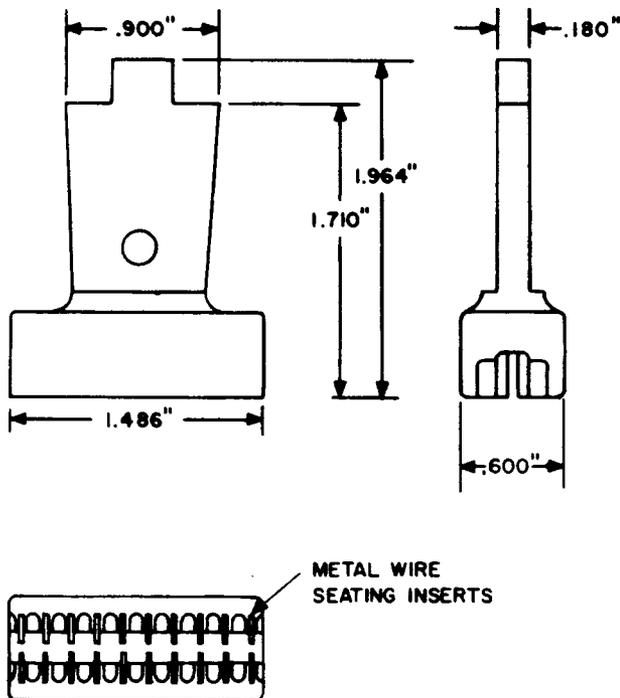

Fig. 6—788B2 Inserter Tool
**2.06 788B2:** The 788B2 inserter tool (Fig. 6) is used with a 788A1 handle to insert cable pairs on 88-type wiring blocks, one to five pairs at a time. The 788B2 tool is also used to install 88-type connecting blocks on to 88-type wiring blocks.